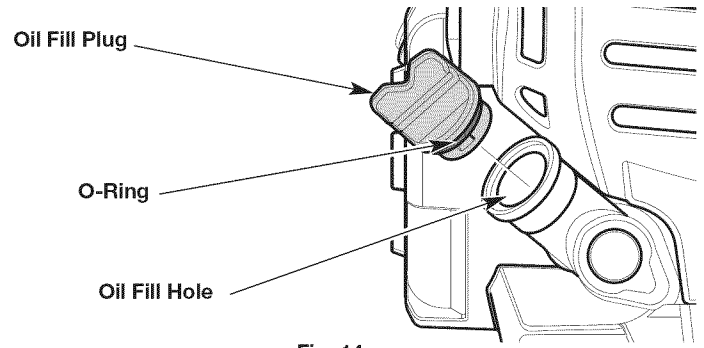

Fig. 14
2. Unscrew the oil fill plug (Fig. 14).
3. Pour the entire container of oil into the oil fill hole (Fig. 14). **DO NOT** overfill. Refer to *Checking the Oil Level*.
NOTE: Make sure the O-ring is in place on the oil fill plug (Fig. 14).